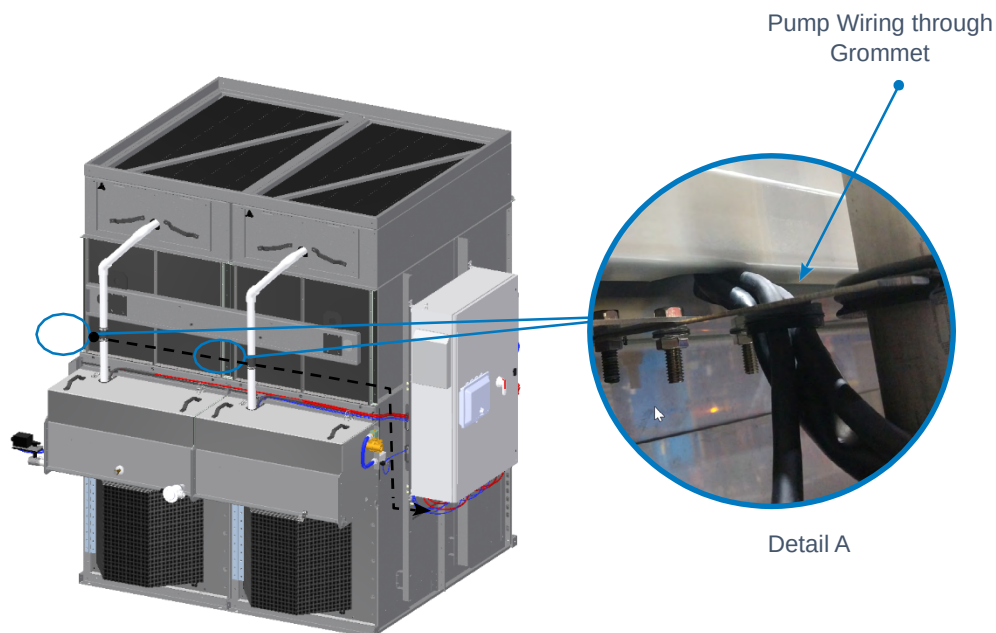

Figure 18. Pump Wire to the touchscreen control system panel
8. Route pump wire through grommet at top of spray water basin. Follow wire path toward the control panel end. Pull pump wire through top oblong hole with edge trim on control panel mount channel. Pull each wire through individual cord grips at the bottom of control panel, then connect each wire to the correct terminal block. Please follow wire diagram located within control panel. See **Figure 18**.